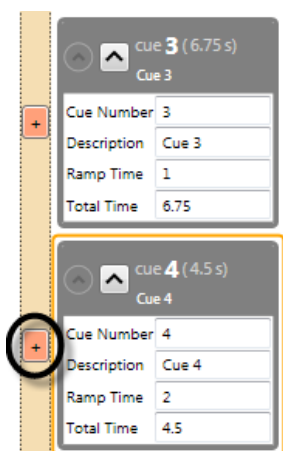

Figure 159
1. Click the **Add Link** button next to the **Child Cue** (Figure 159).